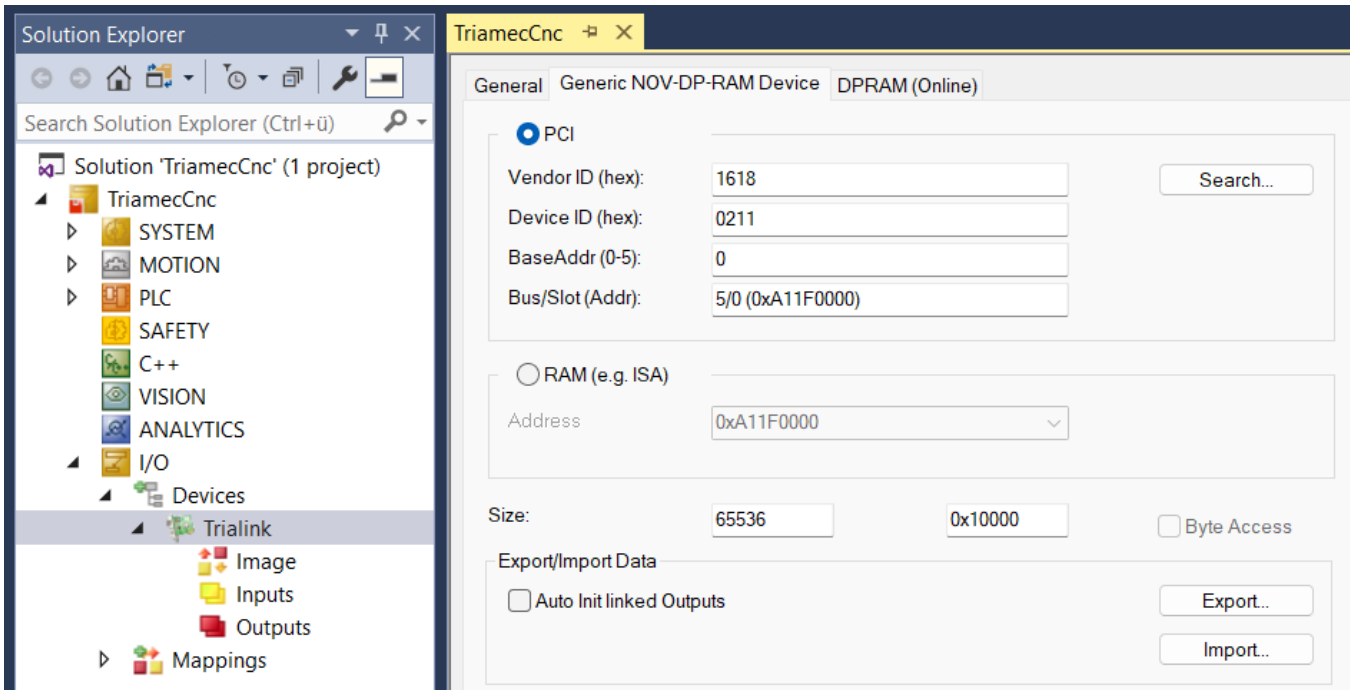

Figure 3: Tria-Link Adapter - General DPRAM settings.
3. Open **I/O > Devices > Trialink > Generic NOV-DP-RAM Device** (Figure 3).